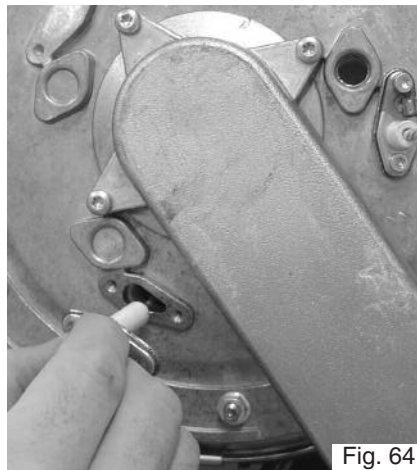

Fig. 64
3. Pull the electrode from the combustion chamber (Fig. 64);